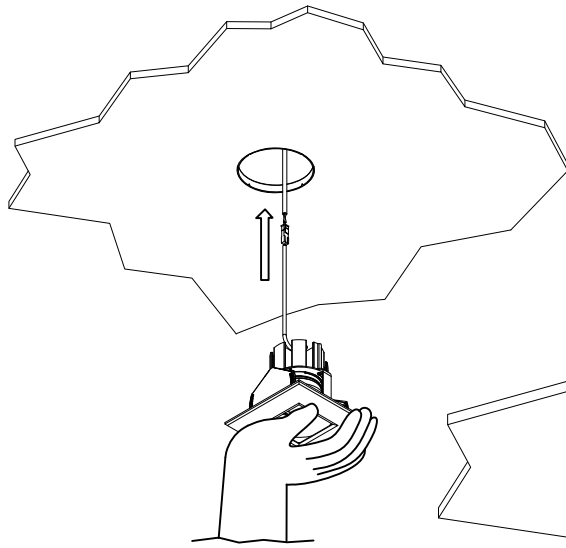

fig. 2a
3. Adjust Trim Section angular adjustment to the maximum tilt adjustment (fig. 1c). Feed wiring harness into ceiling and then insert top of Trim Section into aperture in Rough-In Section in ceiling (fig. 2a & 1d). Use index fingers to grab each outer edge of the semi-circular cutout mounting spring and pull back while placing edges on the lip of aperture (fig. 1b & 1e). Make sure semi-circular mounting spring outer edge contact points are on the lip of the Rough-In Section aperture (fig. 1e), if they are only in contact with the ceiling material, the Underwriters Laboratories Listing may be void.
2. Feed wiring harness into ceiling and the top of the Trim Section (fig. 2a). Make sure that the "arrow point" on each mounting spring is inside the lip of the Rough-In Section aperture, and are only in contact with the ceiling material, the Underwriters Laboratories Listing may be void.